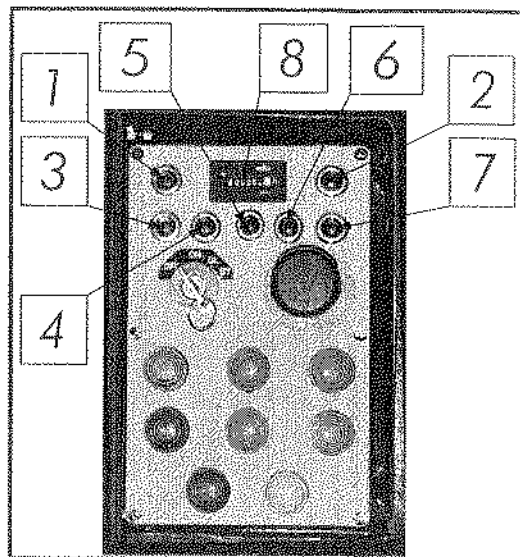

Figure 7-5. Signal lights and hour meter
7.3.2 Signal lights and hour meter (figure 7-5)